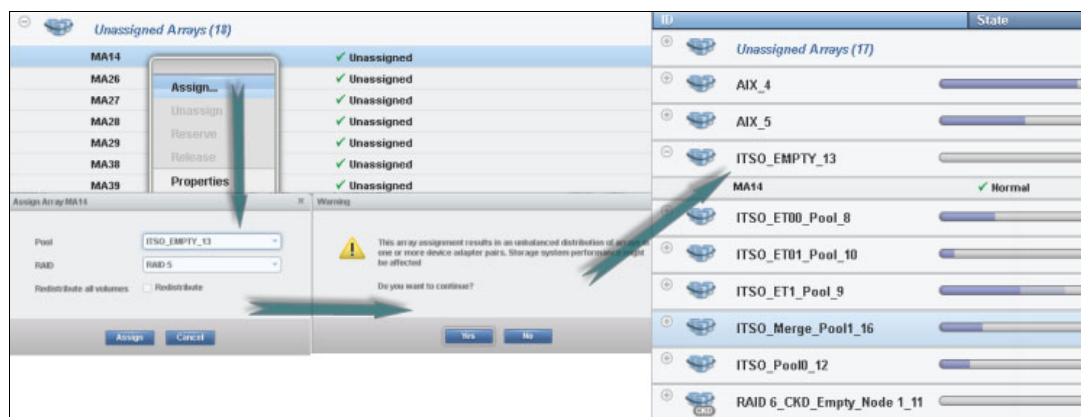

Figure 11-31 Assign an array to a single pool
4. Assign one or more arrays to the single pool, as shown in Figure 11-31.